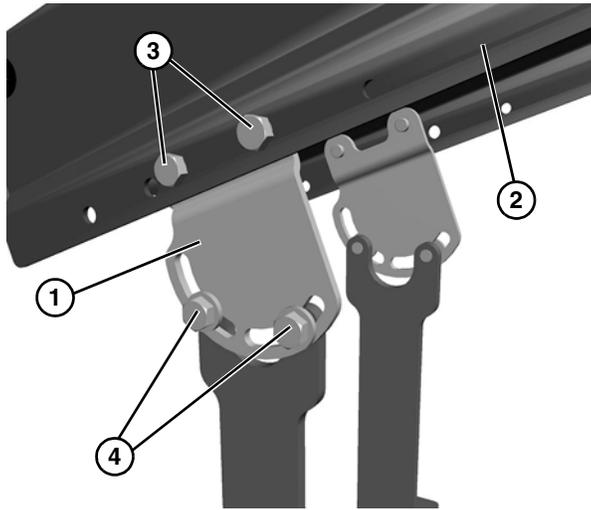

Figure 4
- Attach the bracket (**Figure 4, item 1**) to the conveyor (**Figure 4, item 2**) and tighten the four bolts (**Figure 4, item 3**).
<p>Failure to secure screws (Figure 4, item 4) may cause conveyor sections to drop down causing severe injury.</p> <p>TIGHTEN SCREWS (Figure 4, item 4) AFTER ADJUSTMENT.</p>
- Adjust the bracket angle on the slotted brackets (**Figure 4, item 1**) to match the conveyor angle until the legs are vertical and tighten the bolts (**Figure 4, item 2**).